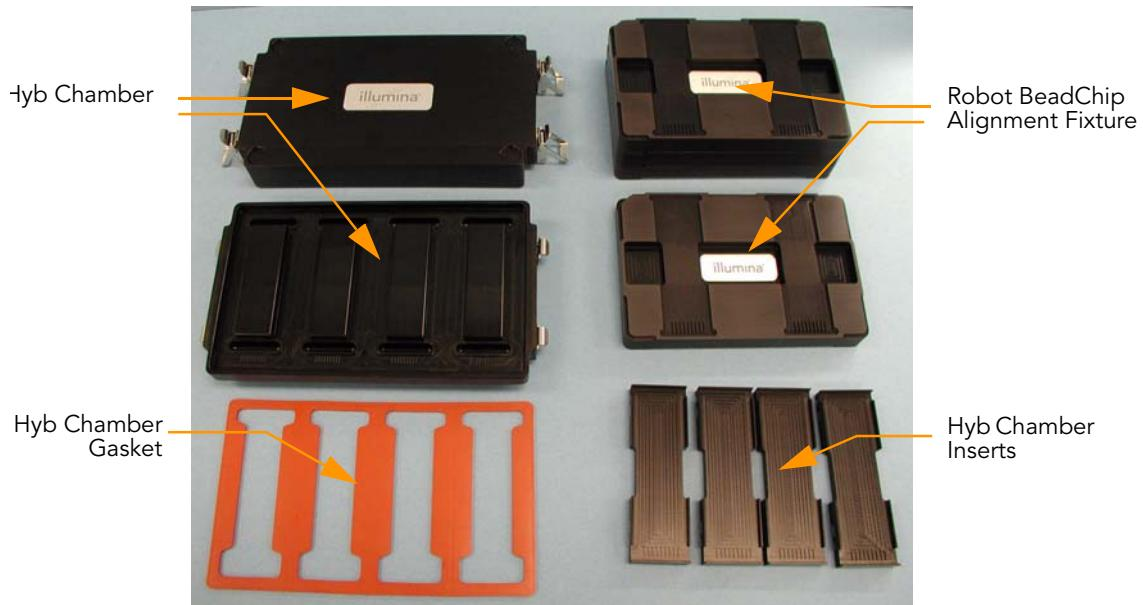

Figure 109 BeadChip Hyb Cartridge Components
1. Place the following items on the bench top (Figure 109):
- BeadChip Hyb Chambers (2)
- Hyb Chamber Gaskets (2)
- Robot BeadChip Alignment Fixtures (4)
- BeadChip Hyb Chamber Inserts (8)